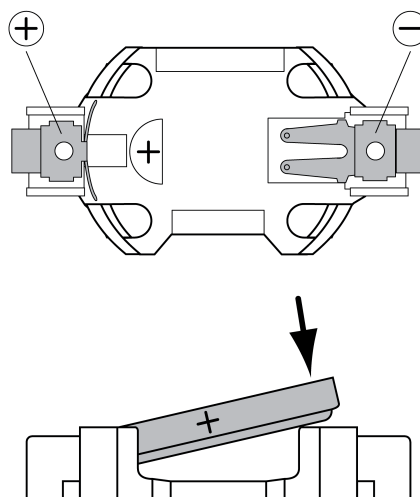

Figure 6: Insert battery
- Apply new battery to the positive contact of the battery holder (Figure 6). Observe polarity: the positive pole of the battery must be at the top.